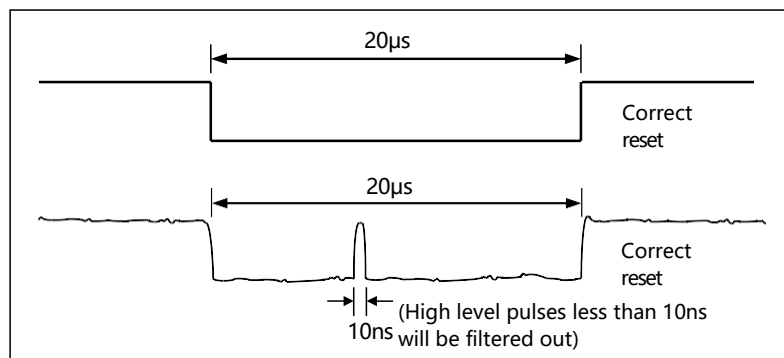

Figure 13 Anti-jitter handling during reset pulse low
3. During the low level of the reset pulse, the anti-jitter circuit will also function and high pulses less than 10ns will be filtered out, as shown in Figure 13 As indicated.